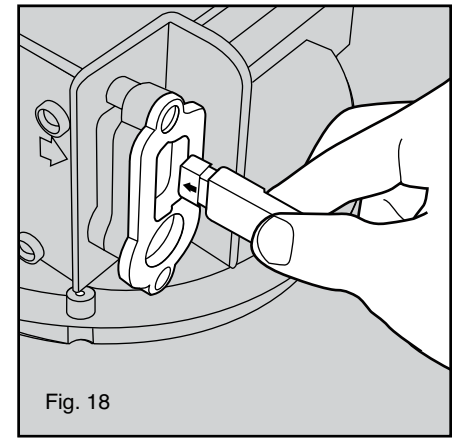

Fig. 18
19. Remove the protective cap on the signal cable plug. Align the yellow arrow on the signal cable plug with the yellow arrow on the motor module receptacle (see figure 18).